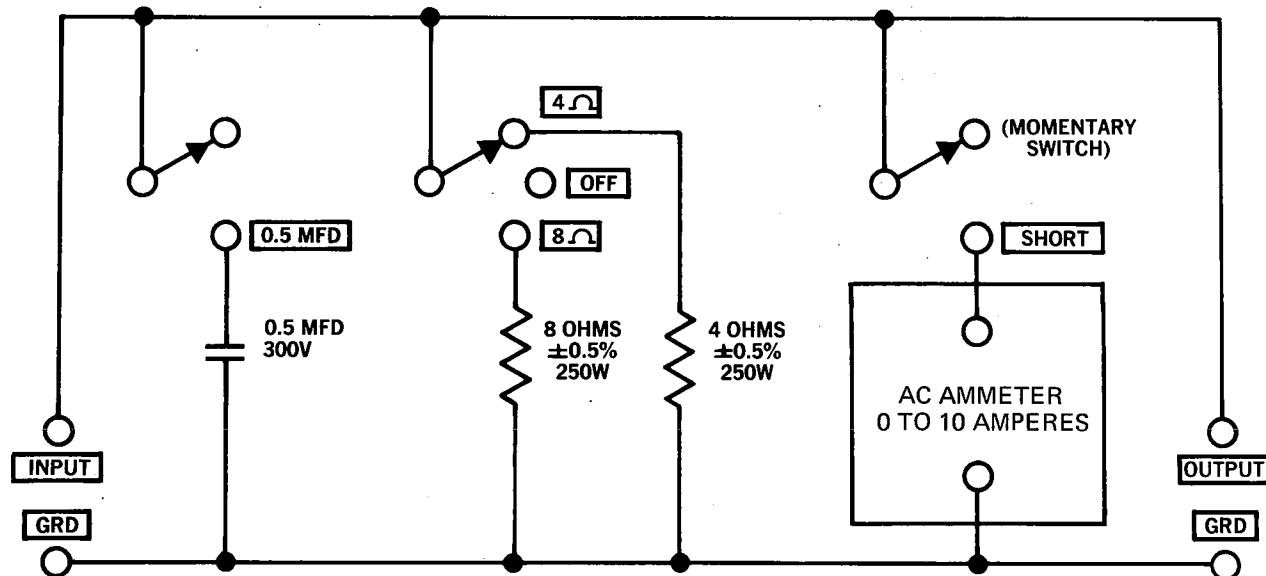

Figure 10. Amplifier Output Load Box Simplified Schematic.
6. Switch 0.5 MFD across the load (Figure 10) and verify distortion is no greater than 0.3 percent. Switch 0.5 MFD out of the load.
2. Press the momentary switch (Figure 10) to a short circuit condition for no longer than three seconds. Verify the ac ammeter indicates no more than 4.5 amperes.